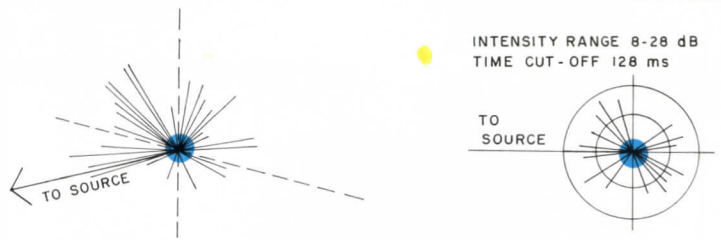
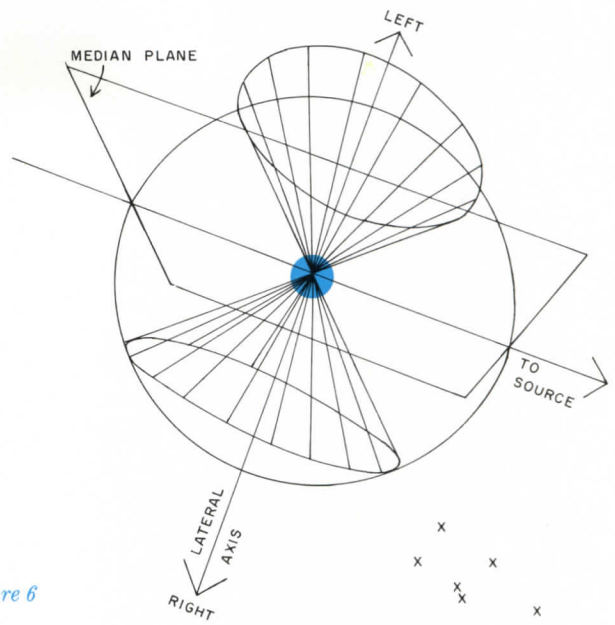

Figure 5
Figure 6
3) to that arriving from directions close to the median plane—that is to say, from directly in front, behind or above (Figure 6). The ear/brain will integrate that portion of the reflected sound intensity arriving during the first quarter of a second or so after the arrival of the direct sound into one impression of "room sound" so that one is not aware of the individual "arrivals" of sound. This fact suggests rather surprisingly that sound heard directly from the source can reduce the listener preference for symphony music! Needless to say, lateralization is not the only characteristic that affects listener preference; however, the suggestion is perhaps less surprising when one considers that the best acoustics in concert halls are usually found farthest from the stage (in the rear of the top balconies), and that often the worst acoustics are much nearer the stage (the front of the main floor seating area).
A particularly useful analytical tool for studying directional information gained from the computer model is the "soundrose" (Figure 5). The soundrose shows the impulse response of an auditorium in terms of *direction* and *intensity* of reflected sound energy. The orientation of the radial lines on the soundrose indicates the direction from which reflected sound waves arrive. The length of a radial line indicates the magnitude of the sound intensity—more precisely, proportional to the component of the logarithm of intensity magnitude in the plane passing through the lateral axis and the listener's line of sight to the source.
For the purposes of the present, very general discussion, we can place all angles of incidence into the categories *lateral* and *nonlateral*. Nonlateral angles are those close to one's line of sight to the sound source, directly overhead, and centrally behind—i.e., those near the so-called median plane (Figure 6). Lateral angles are perpendicular to nonlateral ones: one's ears are directed toward lateral angles. Sound arriving from directions near the lateral axis contributes most to lateralization. We can generalize that sound arriving from directions within the cones shown in the illustration is lateral sound, and sound arriving from outside the cones is nonlateral.
The soundrose, shown here in both perspective and plan (Figure 5), depicts the direction and the magnitude of intensity of reflected sounds as they arrive individually to the listener. Because the lateral and nonlateral components of sound are of most interest acoustically, the plan projection of the soundrose is often the most informative. The lateral axis of sound passes into the listener's ears, while the median plane passes vertically through the center of the head in the direction of the listener's sightline to the sound source (Figure 6). In general, sound arriving from directions falling within the two 90 deg cones shown on the lateral axis contribute the most to lateralization.